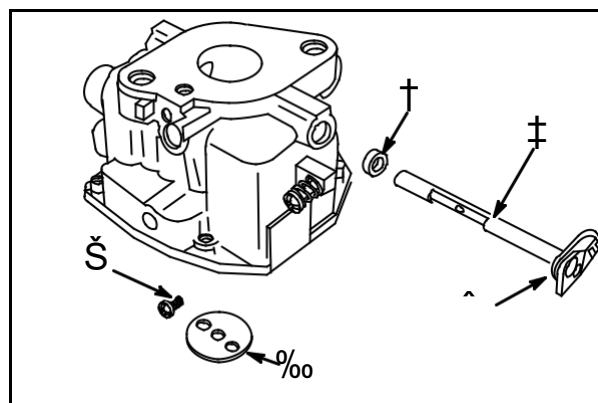

Fig. 87
Install new throttle shaft seal (6) with sealing lip in, **Fig. 87**.